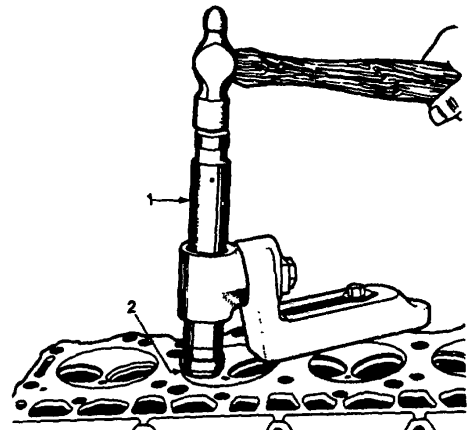

Figure 40. Installing Valve Seat Insert
18. Using insert installer tool from counterbore tool set SE-1797 (Figure 40) install valve seat inserts. Chill inserts thoroughly with dry ice or other means. Position insert on installer tool and drive into cylinder head counterbore until firmly seated.